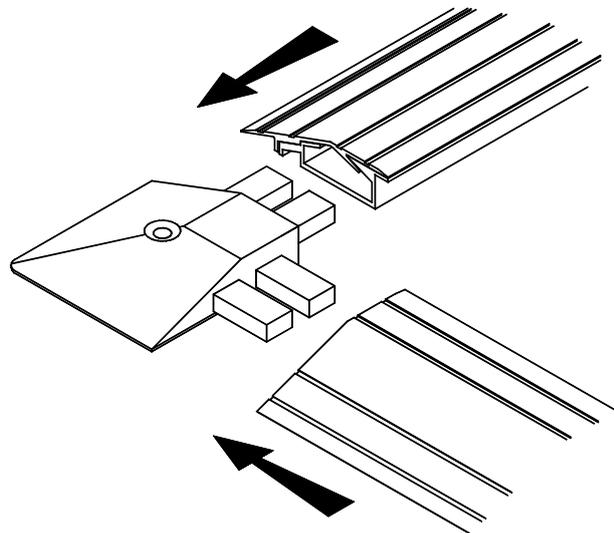

Figure 14 - AE-13 & AE-C Installation
Step 4 - Position the base sections around the mat and fit AE-C corner pieces as shown in figure 14. Drill pilot holes through each corner piece and holes in the base sections if applicable. Remove base sections / corner pieces and drill and plug the floor. Refit base sections and corner pieces and secure in position with the screws provided, ensuring the cable exits neatly through the slot(s) in the base section.